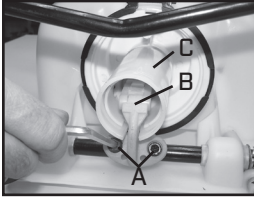

Figure 1
1) Remove the cotter pin and pump handle. With the pump facing towards you lay the unit on its back (Figure 1). Loosen the hose clamp and remove the sprayer hose. Caution: There could be residual liquid in the hose and pressure cylinder. Remove the nut and bolt from the protective cap and remove the cap (ref: figure 9). Rotate the pump shaft in order to reach two lever bolts(A). Using an allen wrench, remove the lever bolts. Pull the piston assembly (B) out of the piston cylinder (C).